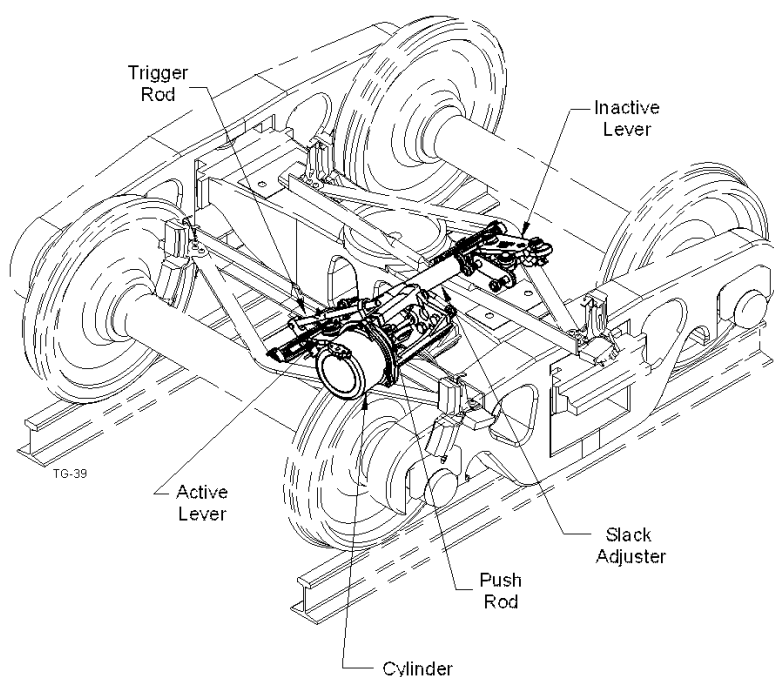

Figure 1
The BMB-60 equipment (see Figure 1) consists of a bolster mounted pneumatic actuator, a low maintenance, double acting slack adjuster (see Item 3, Page 4), two brake beams, two levers, a push rod, a slack adjuster trigger rod and a handbrake lever with a mechanical chain pull. The pneumatic actuator is available in 9 and 10 inch diameter cylinders for application on 70 to 125 ton railway trucks.
- 2) The piston stroke indicator is mounted on top of the non-pressure body of the pneumatic actuator (Figure 1 and 3).